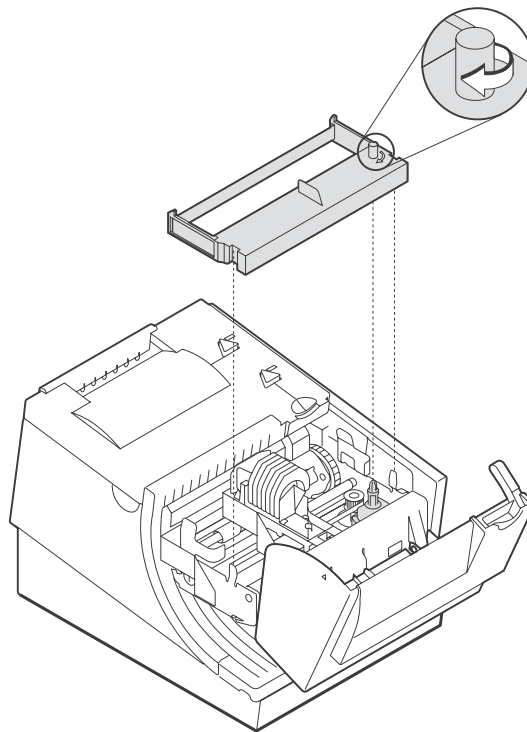
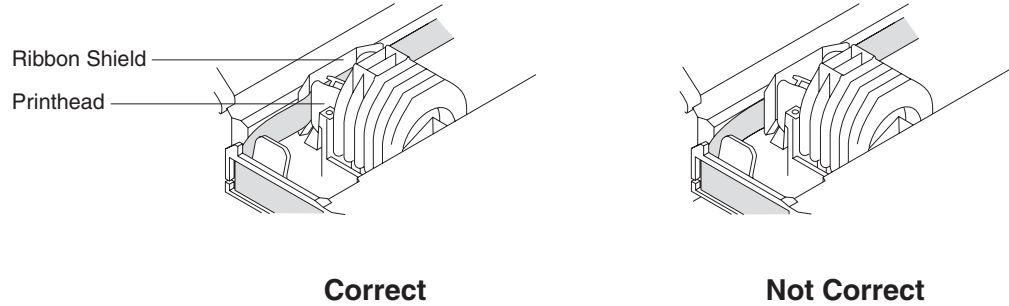

Figure 26. Ribbon cartridge loading
Figure 27. Ribbon path around the print head
- Maintain ribbon tension by turning the ribbon cartridge knob as shown in Figure 26 on page 51. Lower the cartridge into position until the notches on its sides snap into place on the printer guides. Once the cartridge is in place, turn the knob until the ribbon slides into place between the print head and the ribbon shield. See Figure 27 for correct ribbon positioning.